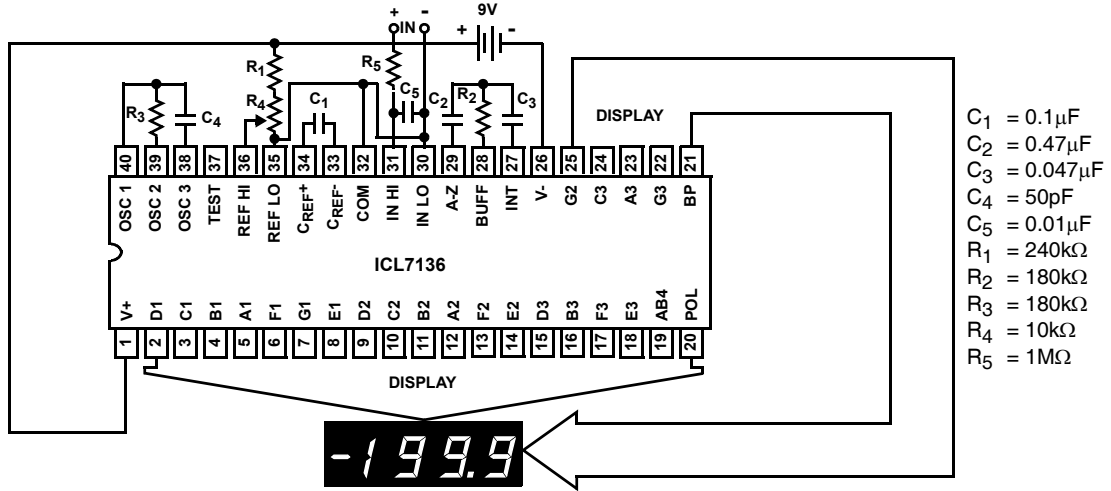

FIGURE 1. ICL7136 TEST CIRCUIT AND TYPICAL APPLICATION WITH LCD DISPLAY COMPONENTS SELECTED FOR 200mV FULL SCALE
- Unless otherwise noted, specifications apply to the ICL7136 at $T_A = 25^\circ\text{C}$, $f_{\text{CLOCK}} = 48\text{kHz}$. ICL7136 is tested in the circuit of Figure 1.